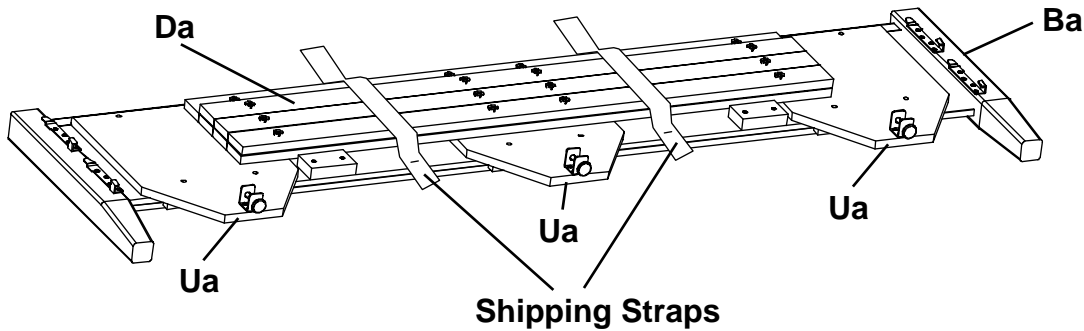

Fig. 1
1. Remove the Trestles (Da) and Foot Assemblies (Ua) from the backs of the Footboard (Ba) and place them off to the side. See Figures 1 and 1a.